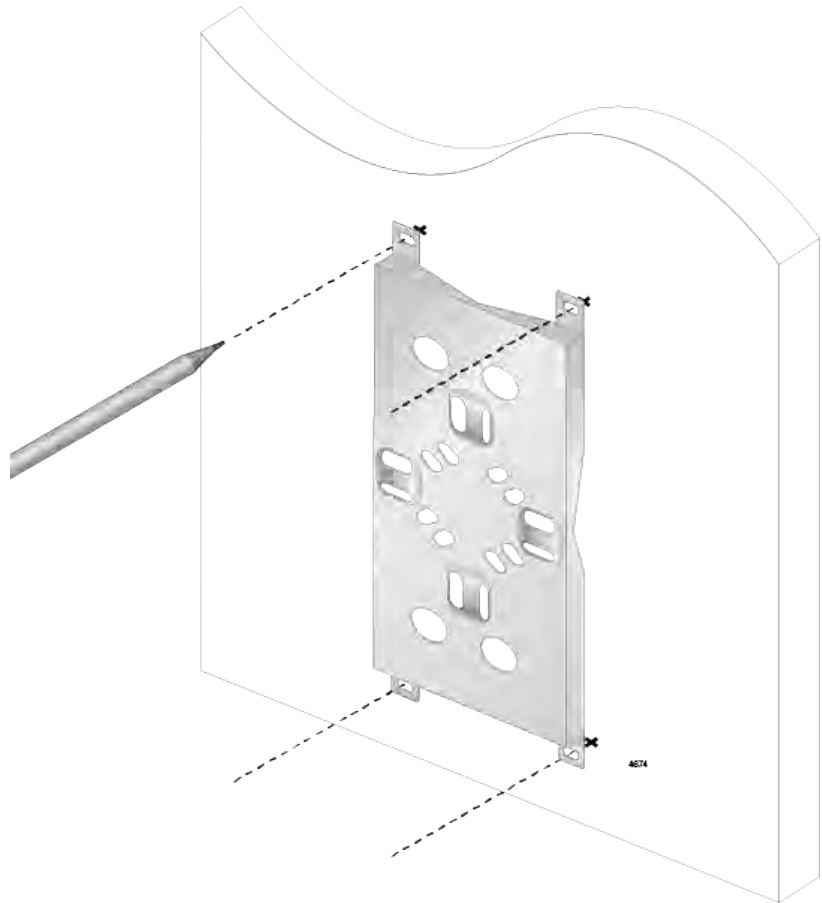

Figure 27. Marking the Mounting Base Holes on the Wall
2. Hold the mounting base on the wall at the desired location for the access point and mark the four mounting base holes with a pencil. See Figure 27.